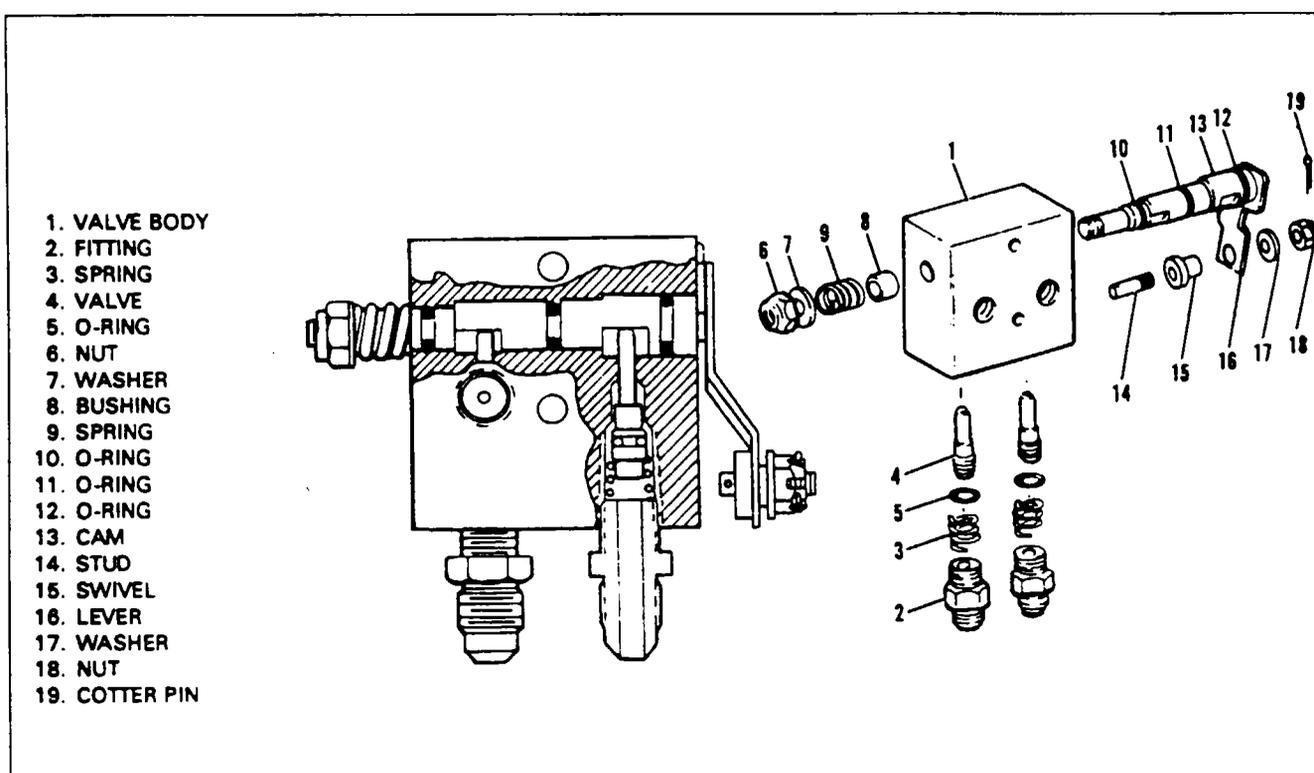

Figure 32-23. Parking Brake Valve Assembly
**DISASSEMBLY OF PARKING BRAKE VALVE.** (Refer to Figure 32-23.)
**ASSEMBLY OF PARKING BRAKE VALVE.** (Refer to Figure 32-23.)